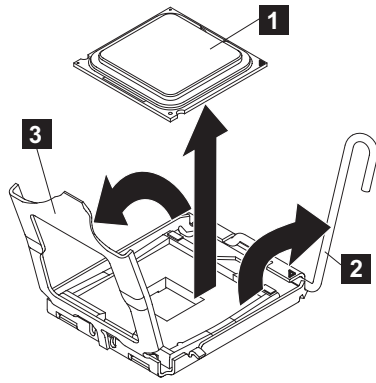

Figure 245. Opening the SAN Volume Controller 2145-CF8 microprocessor-bracket frame
11. Release the microprocessor-release lever ( **2** in Figure 245 on page 223), by pressing down on the curved end of the lever, moving that end away from the middle of the processor, and releasing the lever up to the open position.
12. Open the microprocessor-bracket frame by lifting the tab that is on the top edge. Keep the bracket frame in the open position, as shown in Figure 245.